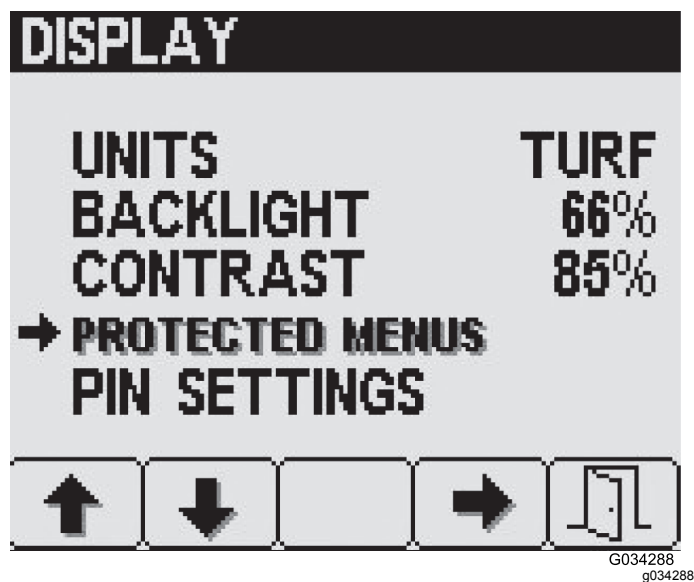

Figure 22
1. Press button 2 on the Display settings screen until you reach Protected Menus, then press button 4 to select Protected Menu (Figure 22).
2. Press button 2 until you reach the desired protected menu item (Figure 22).